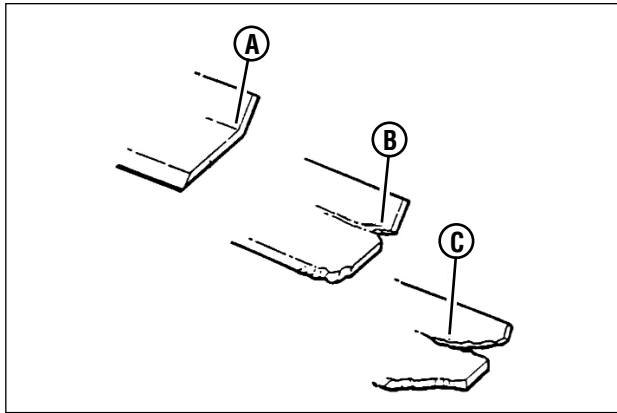

Figure 15: Mower blade wear limits
1. Inspect the blade (**Figure 15**) frequently for signs of excessive wear or damage:
- (A) New blade
- (B) Wear limit (notch starts)
- (C) Dangerous condition! Do not use on the mower!